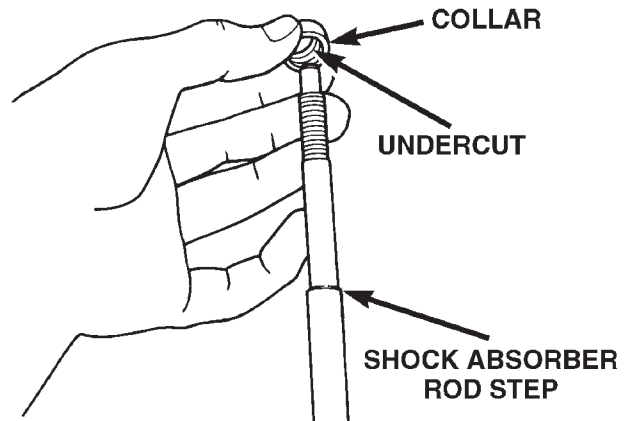

Fig. 77 Shock Absorber Rod Collar Installation
(9) Install the collar, undercut side facing down, on the rod of the shock absorber (Fig. 77). Be sure the collar is positioned squarely on the step of the shock absorber rod.